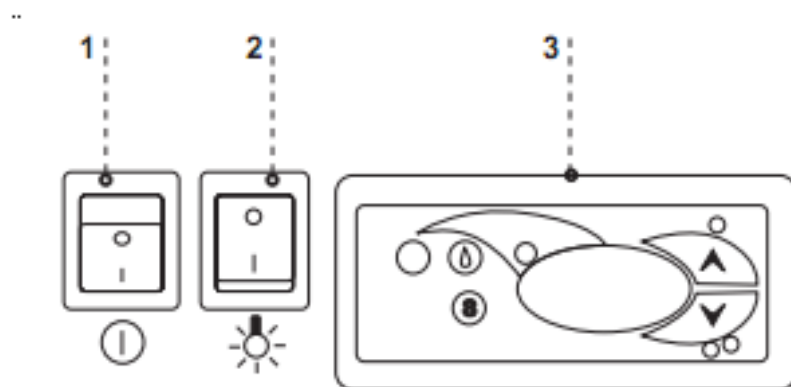

Fig. 8 Device control panel
- Switch the main switch on Fig. 8 \(p.9\), which will start the thermostat and then the cooling unit.
- Set the temperature on the thermostat panel Fig. 8\(p.9\) (detailed description on p.18 or 19)
- Switch the lighting button on Fig. 8 \(p.9\)